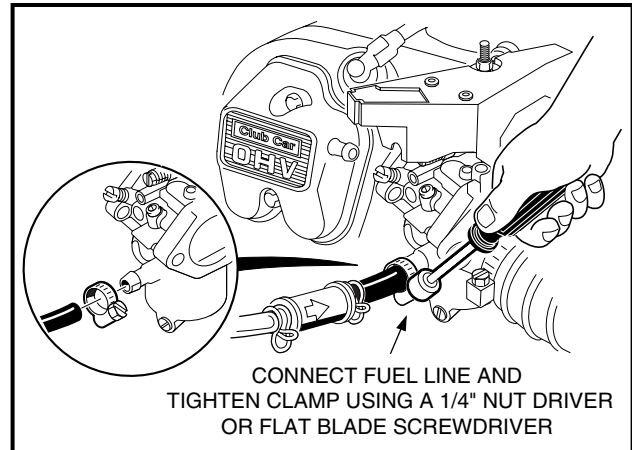

FIGURE 10-101
23. Pull the fuel line from the outlet nipple of the fuel pump and connect it to the carburetor, then use a 1/4" nut driver to secure the hose clamp (**Figure 10-101, Page 70**).